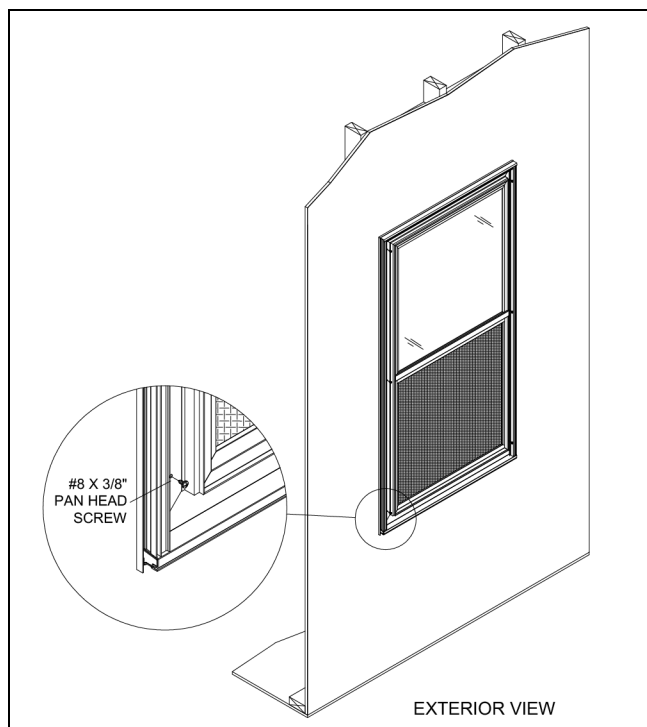

Figure 1
1. Place combination into the exterior frame of double hung. Fasten combination to frame by inserting the #8 x 3/8" Phillips self tapping screws in the pre- drilled holes and driving with a power drill/driver. Do not over- tighten screws. See Figure 1.